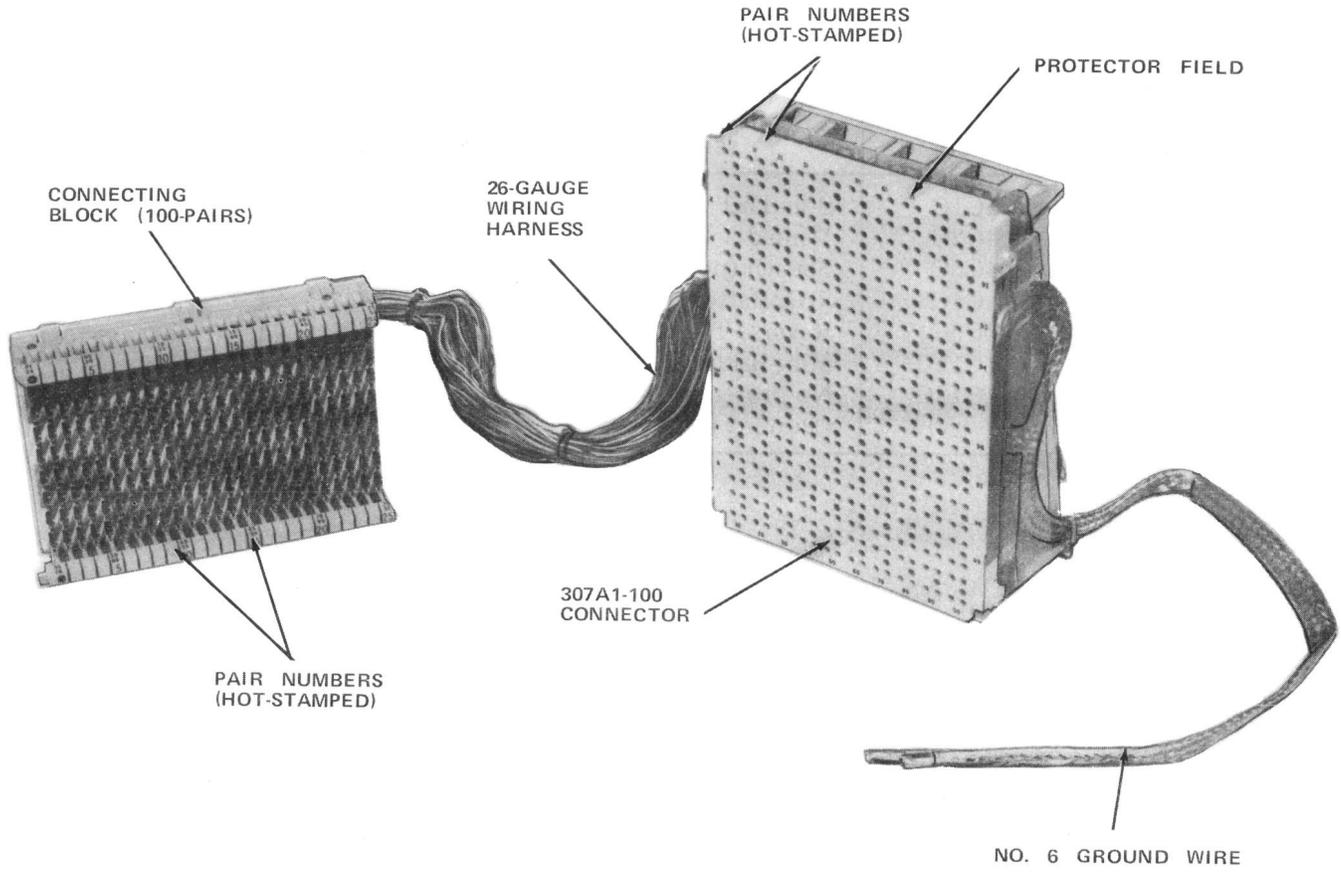
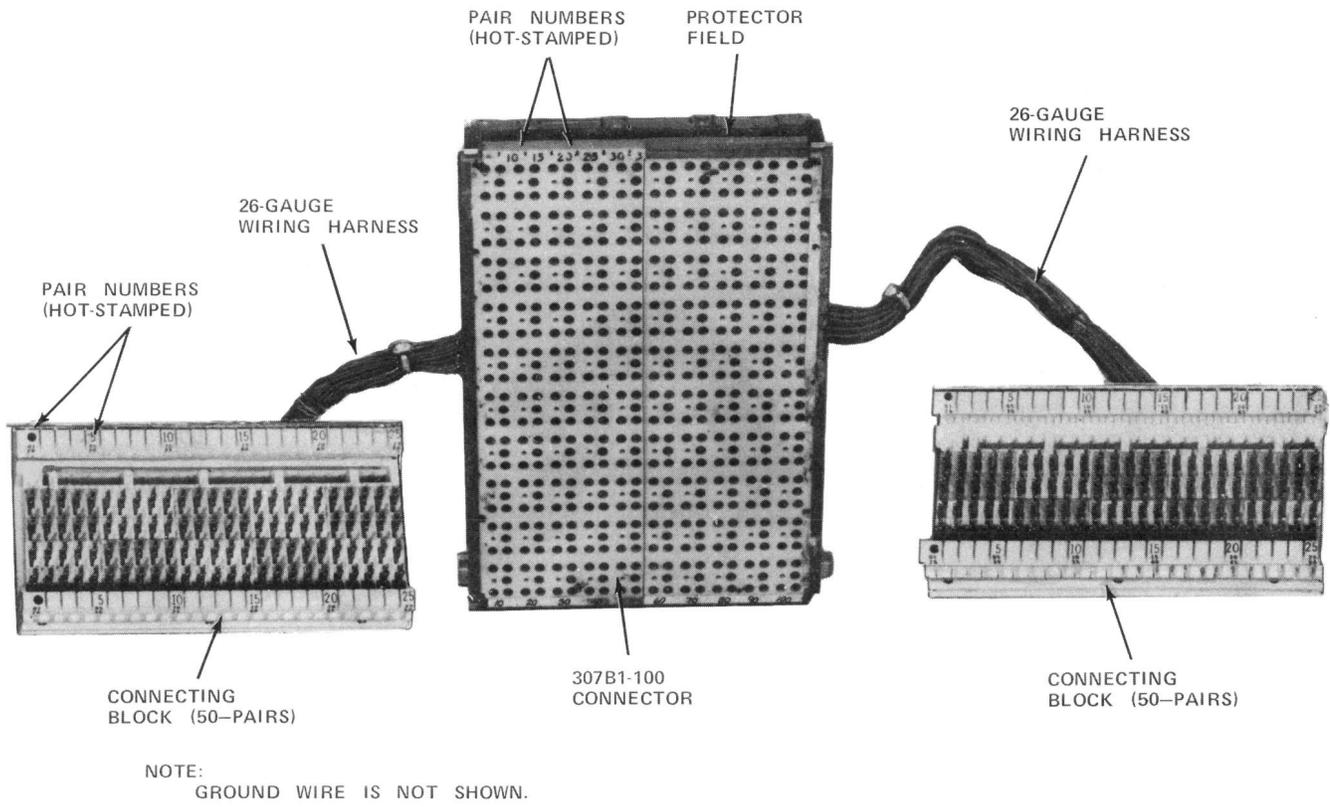

Fig. 1—Front View of 307A1-100 Connector
Fig. 3—Front View of 307 B1-100 Connector
2.01 Two basic 307-TYPE connector configurations are the 307A1-100 and the 307 B1-100. The 307A1-100 (Fig. 1 and 2) has a protector panel interconnected to one 100-pair connecting block. The connecting block is stenciled 01-100 and represents any 100-pair complement in an outside plant cable. The 307A1-100 is mounted on shelves 2 through 10 of the COSMIC II framework. The 307B1-100 connector (Fig. 3 and 4) has a protector